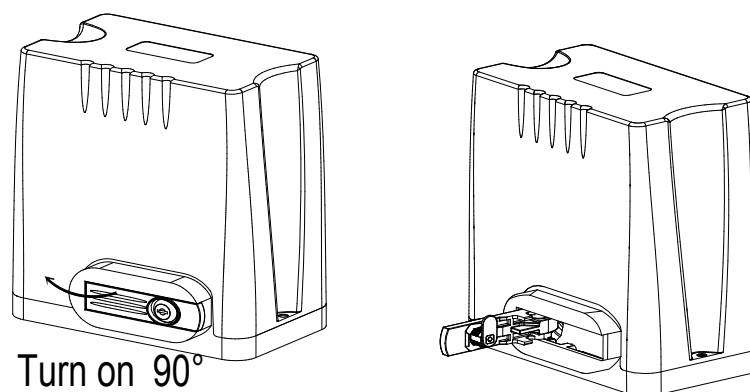

Figure 5
- Please unlock the main engine before installation, the unlock method is: insert the key, and open the manual release bar till it rotates by 90° as shown in Figure 5. Then turn the output gear and the gear can be rotated easily;